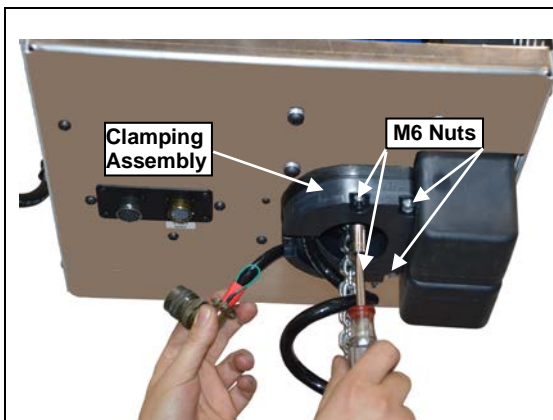

Figure 2-6
- 3) Secure the (4) four M6 nuts onto the bolts that pass through the clamping assembly from the bottom of the Servo Hoist. (Refer to Figure 2-6)